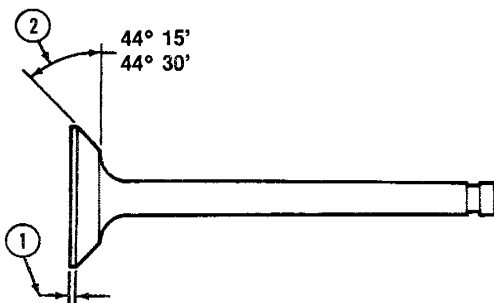

Figure 12
8. Examine the valve face and, if pitted, replace or reface by grinding to the dimension shown in Figure 12. Before refacing the valve, be sure the valve stem is not bent or worn and check the valve seat run-out, measured at right-angles to the seat, does not exceed a total of 0.0015 in. (0.038 mm). Measure the valve head margin to assure sufficient margin remaining after refacing.